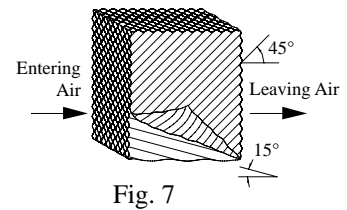

Fig. 7
**IMPORTANT:** In order to get the best performance from your cooling pads, they must be installed properly. If you have purchased a pad with two equal angles, the following instructions can be disregarded. Pads must always be installed with the steeper flute angle sloping down towards the air entering side (Fig. 7). The reason is simple. The steeper angle puts more water on the hot, dry, dirty side of the pad where it is needed most. It also counteracts the tendency of the air to push the water toward the back of the pad.